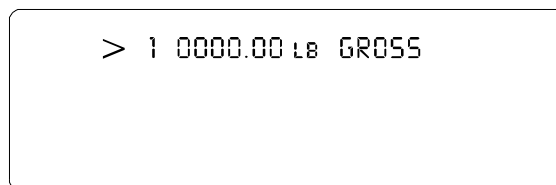

FIG. 3-4 SUMMARY DISPLAY/1 CHANNEL
- Step 1. The First display is the Summary Display with either one, two or four channels (depending on the installed option card) displaying the weight in Gross mode. (See Fig. 3-4, 3-5, 3-6)